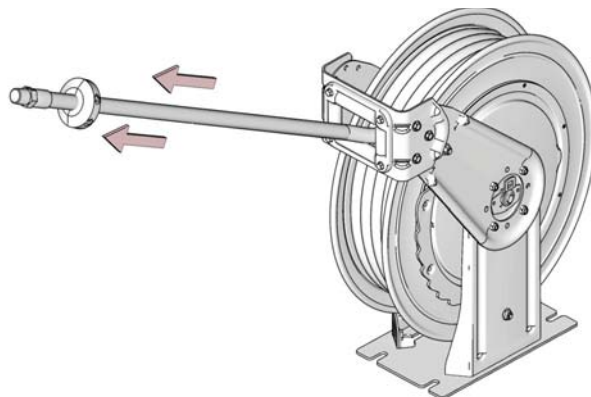

FIG. 29
7. Pull on hose to test tension (FIG. 29).